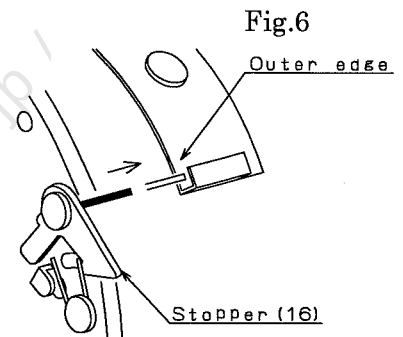

Fig.6
- After drum (13) assembling, install spring (14).
- After assembling new Spring (14), lubricate Spring with grease.
- When installing Plate (15) on Drum (13), place Stopper (16) in the outer edge Spring (14). (see Fig.6)